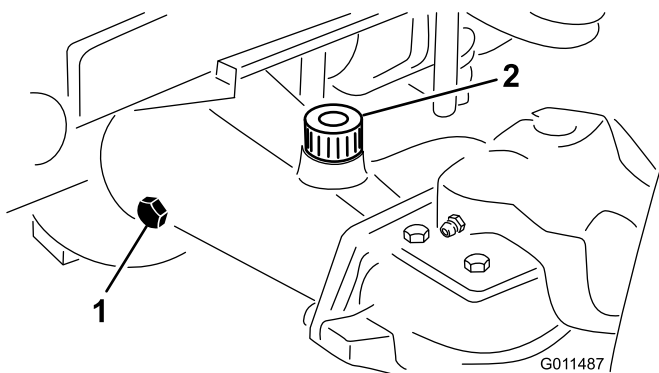

Figure 64
- Remove a check plug from one end of the axle and ensure that the lubricant is up to the bottom of the hole (Figure 64).